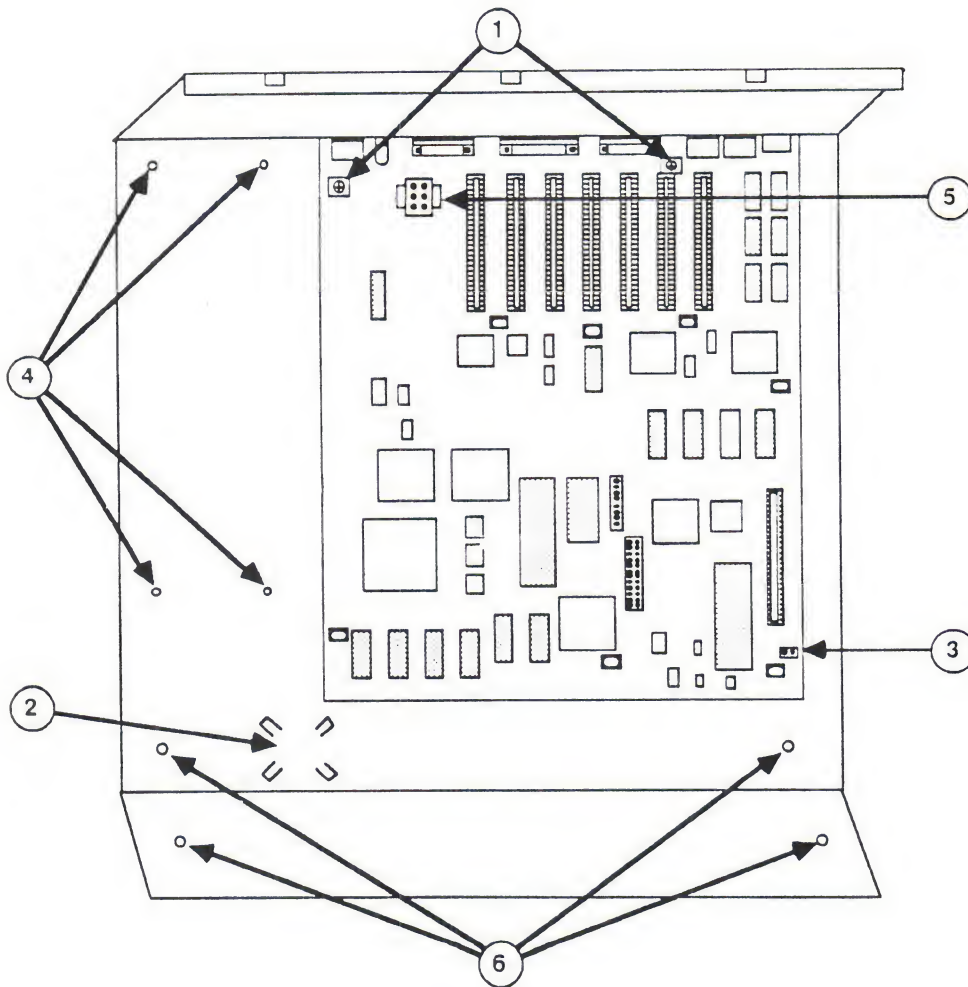

FIGURE 4
3. Install the Apple IIGS logic board onto the PCB supports on the new bottom pan. Install the two logic board mounting screws (Figure 4, #1).
4. Install the customer's speaker on the new chassis (Figure 4, #2).
5. Connect the speaker cable to its plug on the logic board (Figure 4, #3).
6. Align the screw mounts on the customer's power supply with the screw holes on the new bottom pan (Figure 4, #4). Insert and tighten the four power supply screws.
7. Connect the power supply connector to its socket on the logic board (Figure 4, #5).
9. Using four of the screws, install the brackets (one on each side) on the bottom pan (Figure 4, #6).